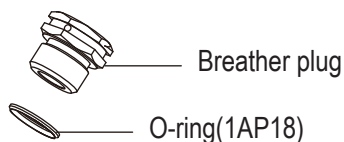

Fig. 9
- j. Remove the O- ring of the breather. (Fig. 9)